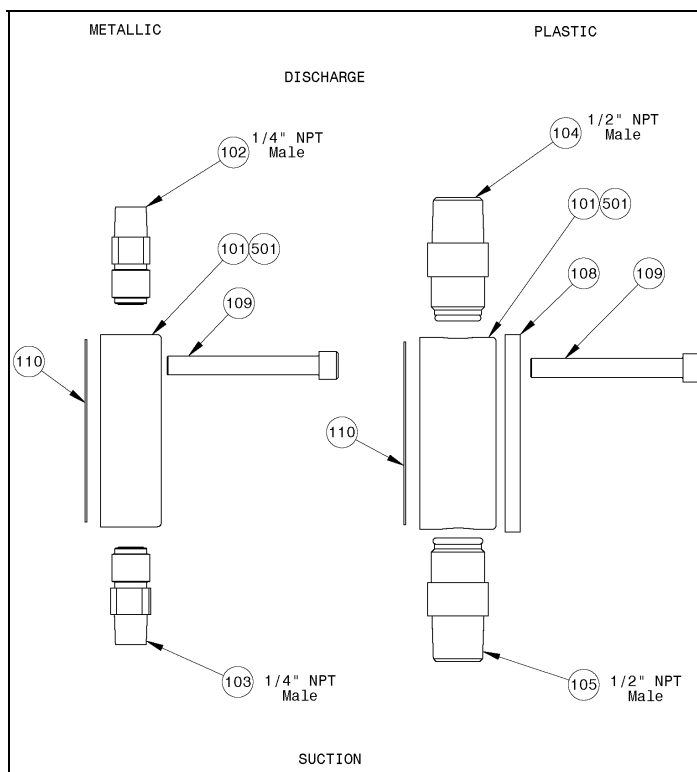

Figure 4. Metallic/Plastic Head Assembly, Size A.
3. Remove suction and discharge check valve caps as shown in Figures 4 through 6. Be sure not to drop valve components as damage may occur.
8. Replace check valve assemblies as shown in Figures 4 through 6. Torques on valve caps (size B only) are critical. Consult Table 2 for correct torque value. Tighten size A valve caps to compress o-ring.